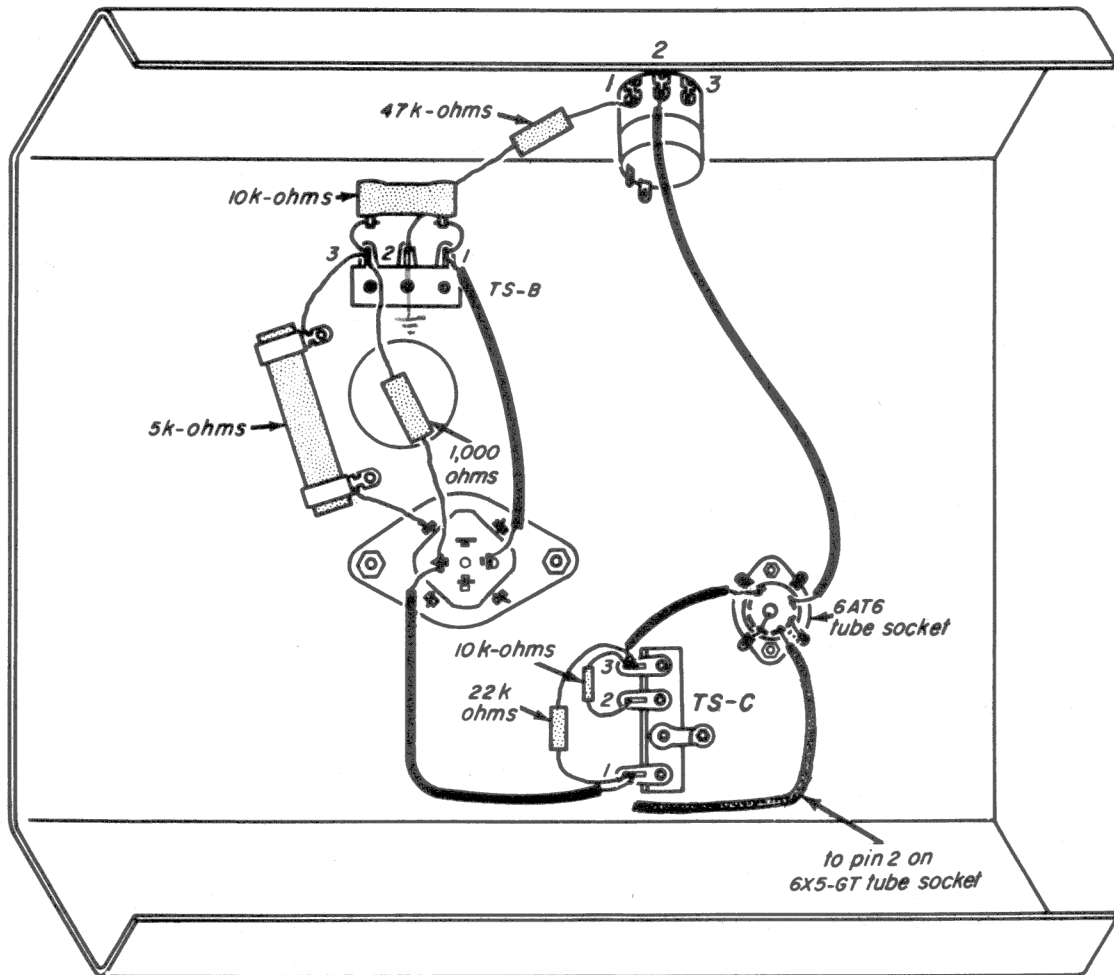

Fig. 22-1
To mount the 7-pin miniature socket for the 6AT6 tube, wire the filament circuit, and prepare the circuit for the following experiments. The setup for this job is shown in Fig. 22-1.
Step 1. Install the 6AT6 socket in its hole. Make sure that the space between pins 1 and 7 of the socket is facing the front of the chassis as shown in Fig. 22-1. Fasten the socket with 4-40 x 1/4-inch screws, No. 4 lockwashers, and hex nuts.
Step 7. Interchange the positions of the 5 k-ohm and 10 k-ohm bleeder resistors so that the 10-k-ohm resistor is connected across TS-B, and the 5 k-ohm resistor is connected from lug 3 to chassis, as shown in Fig. 22-1.
Step 11. Connect a lead from lug 1 of TS-C to the 20- μ f terminal (marked with a triangle Δ) of the electrolytic capacitor. At this point, the new wiring on your receiver chassis should appear similar to that shown in Fig. 22-1, except for the 47 k-ohm resistor and the wire from pin 1 of the 6AT6.
Step 1. Connect a 47 k-ohm resistor from terminal 1 of the potentiometer to lug 2 (chassis) of TS-B, as shown in Fig. 22-1.